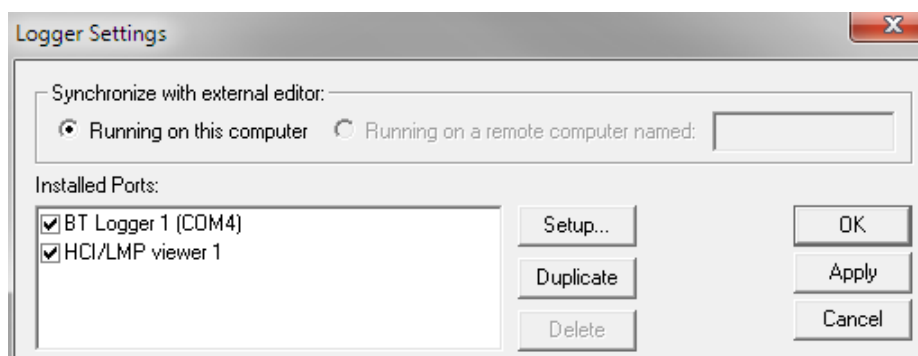

Figure 5. Selecting a Port
The Logger Settings dialog box displays (see Figure 5).
3. In the Installed Ports field of the Logger Settings dialog box, select a port from the list of ports. Figure 5 shows the Island1 plug-in selected.